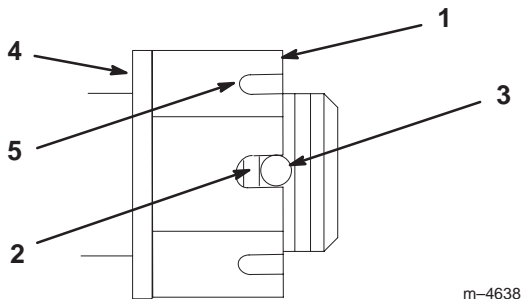

Figure 49
4. Torque the slotted nut to 125 ft–lb (170 N·m) (Fig. 49).
5. Check the distance from the bottom of the slot in the nut to the inside edge of the hole. Two threads or less should be showing (Fig. 49).
6. If more than two threads are showing, remove the nut and install a washer between the hub and nut (Fig. 49).
7. Torque the slotted nut to 125 ft–lb (170 N·m) (Fig. 49).
8. Tighten the nut until the next set of slots line up with the hole in the shaft (Fig. 49).